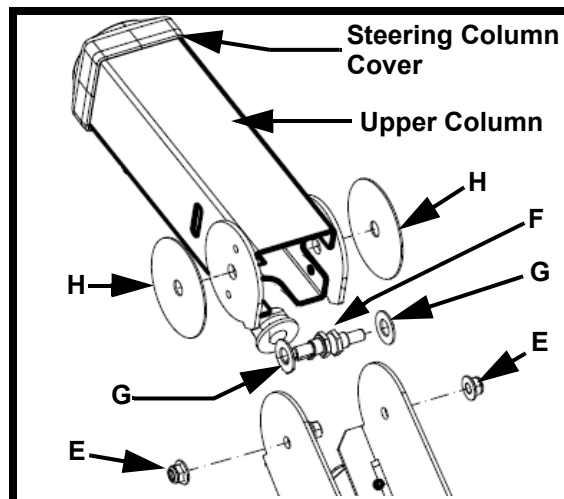

FIGURE 3
8. Remove the two (2) 3/8-16 nylon lock flange nuts (**E**). See Figure 3.
9. Remove the two (2) shoulder screws (**F**) and the two (2) flat washers (**G**) shown in Figure 3.
10. Remove the two (2) large black column plate washers (**H**). Retain all hardware removed in Steps 8 through 10.